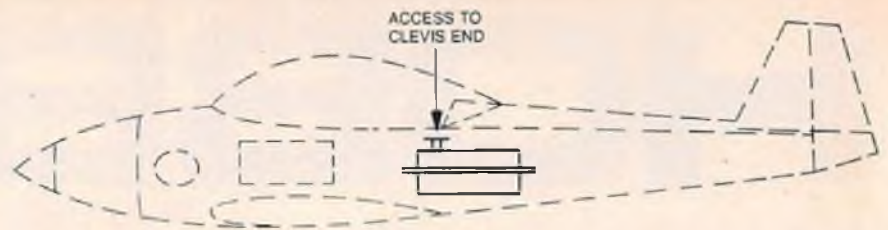

FIGURE 1
**L**ike most of you, I really enjoy working on my various model projects, and especially like "how-to" articles . . . something I find is missing from most British magazines. (Dave hails from Leeds, England, hence the reference to British magazines — Ed.). In fact, I'm a real "make it, and make it better" type. So much so that a local dealer I fly with says that I'm no good for the trade. I tell him that I like to think that I might be good for the hobby. I like building small, and that often means that servos have to be slid into inaccessible areas. The following method is good, provided the clevis end is exposed when the canopy and/or cover is removed (see Figure 1).